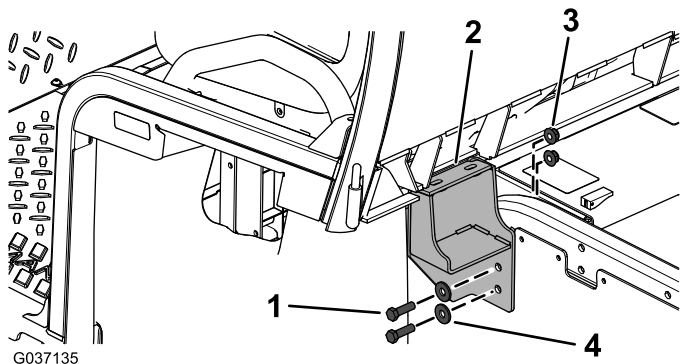

Figure 7
- Loosely attach the left and right cab supports to the machine using the hex-head bolts (3/8 x 1-1/4 inch), washers (3/8 inch), and flange nuts (3/8 inch) as shown in Figure 7.
- Tighten the left and right supports, and torque the bolts to 58 N·m (43 ft-lb) as shown in Figure 7.